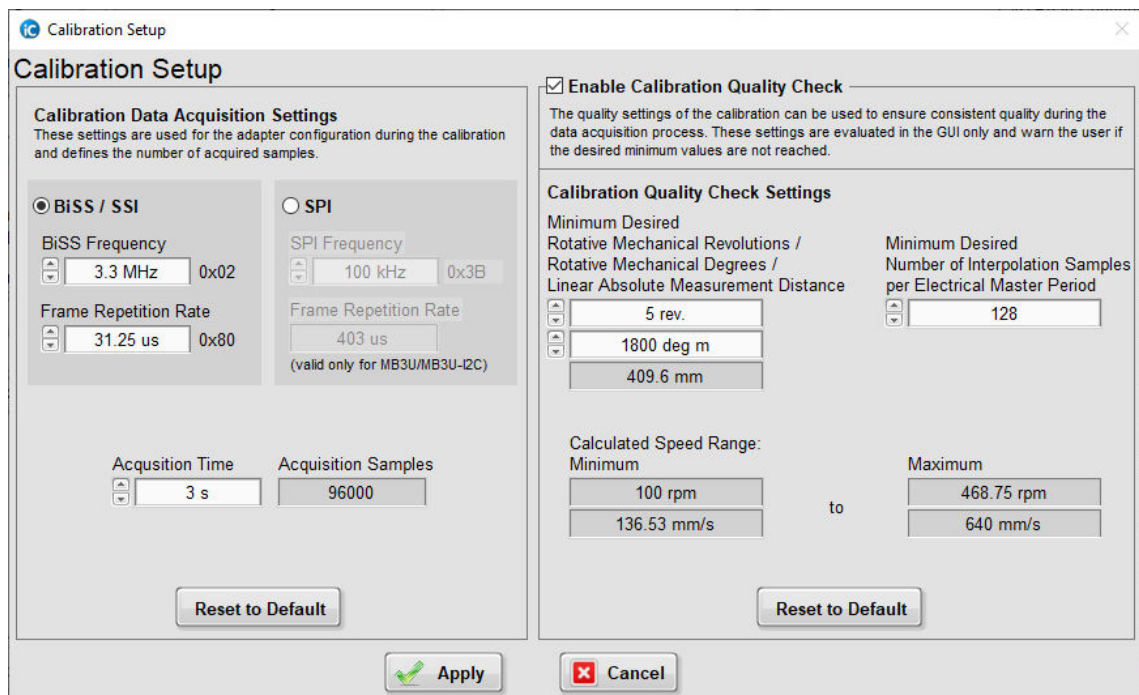

Figure 10: iC-MU Series GUI, Calibration Setup
12. The interface settings for the calibration data acquisition can be adjusted under tab <Connection> → <Calibration Setup>, see Figure 10. Alternatively, the <Settings> buttons in the <Analog> and <Nonius> tabs can be used. Please also see chapter DETERMINATION OF THE CALIBRATION PARAMETERS for further information on SPI and BiSS calibration settings.